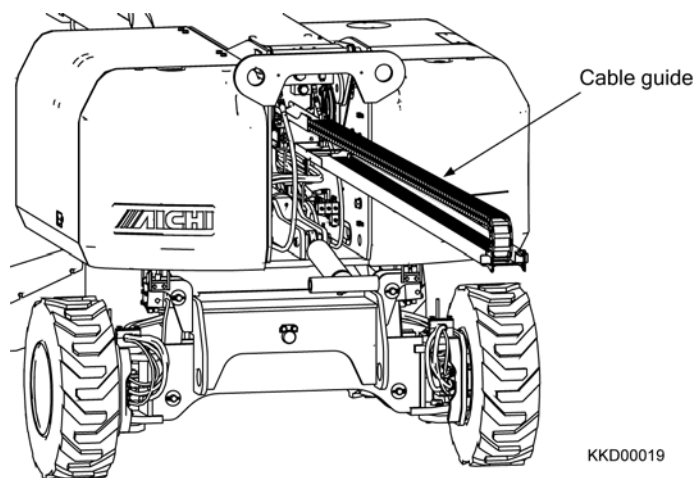

Fig. 2-44
23) Remove the cable guide, and then lay it on the stable place. (Fig. 2-44)